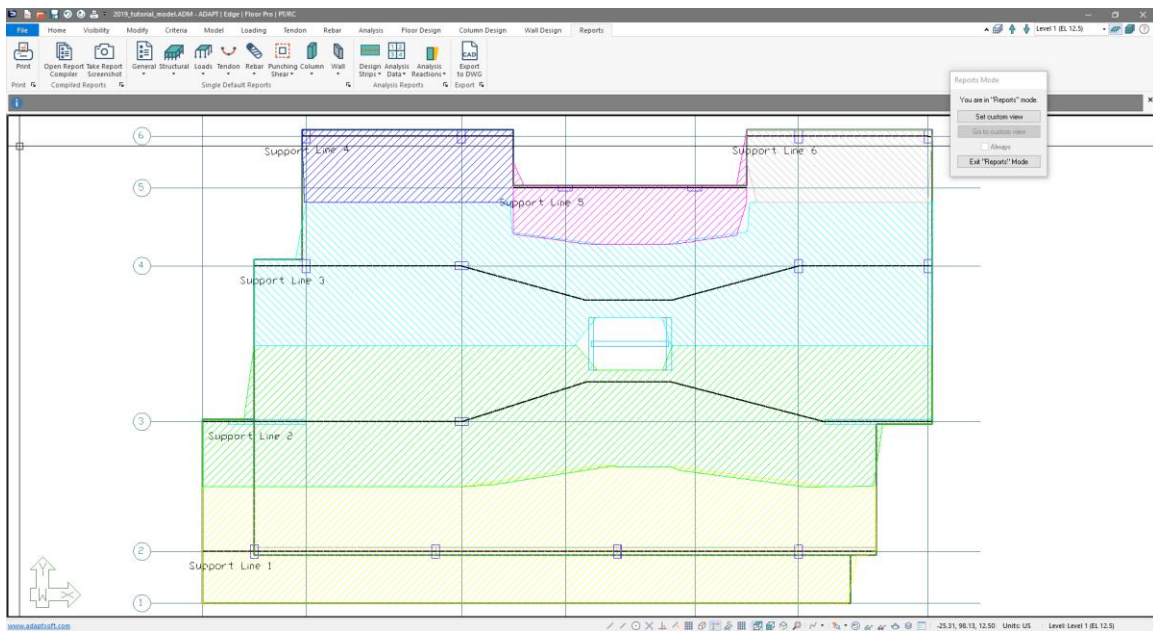

Figure 9-31
- Go to *Reports* → *Analysis Reports* → *Design Strips* → *Design Strips X-Direction*. This will bring up a report view of the design strips for the user to review as shown in **FIGURE 9-31**.